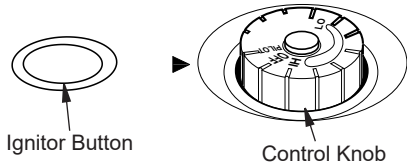

Figure 19 - Control Knob in the OFF Position
4. Wait five (5) minutes to clear out any air. Then smell for gas, including near the floor. If you smell gas, STOP! Follow "B" in the safety information, page 15. If you do not smell gas, go to the next step.
5. Turn control knob counterclockwise  to the PILOT position. Press in control knob for five (5) seconds (see Figure 19).